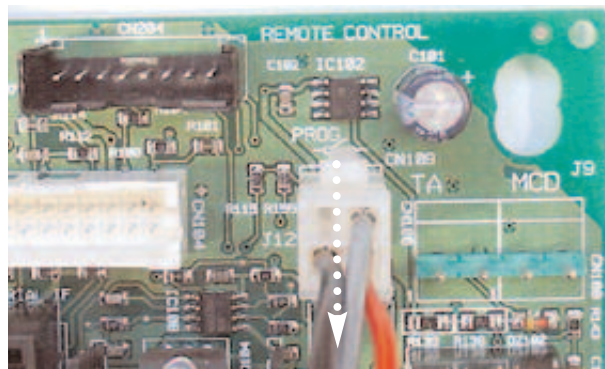

Fig. 18.16
3. Disconnect the programmer plug (see Fig. 18.16);